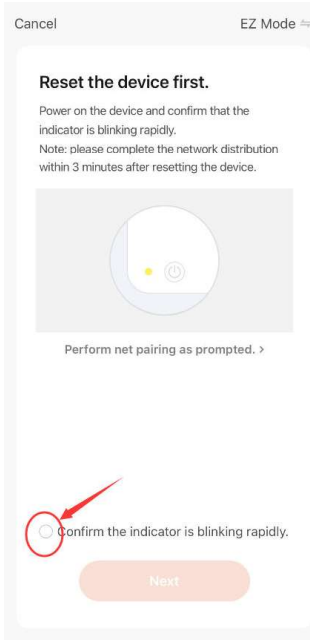

FIG.5
3. Press  (flame button) on the touch panel of the fireplace for more than 5 seconds when the fireplace in standby mode. There will be 2 beeps come out from the fireplace and the  (flame button) will flash as well indicating that Wi-fi is in EZ mode. Then please confirm to go next. (FIG.5)